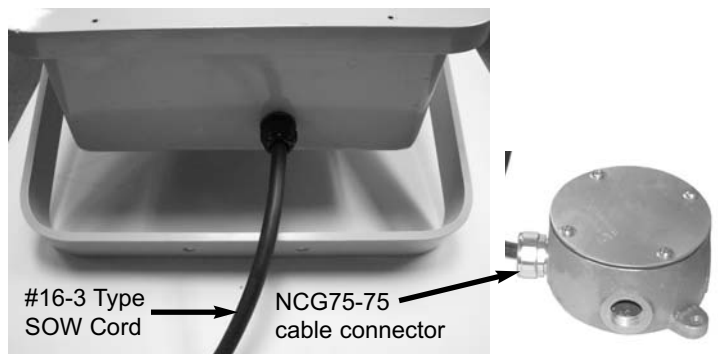

Figure 5 - Wall Mount with Outlet Box
3. Install one end of a length of #16-3 type SOW portable cord (or other extra hard usage portable cord) into the GRFX outlet box using a Crouse-Hinds NCG75-75 cable connector. See Figure 5. The cord length required will allow ample slack to adjust the aiming angle of the floodlight.